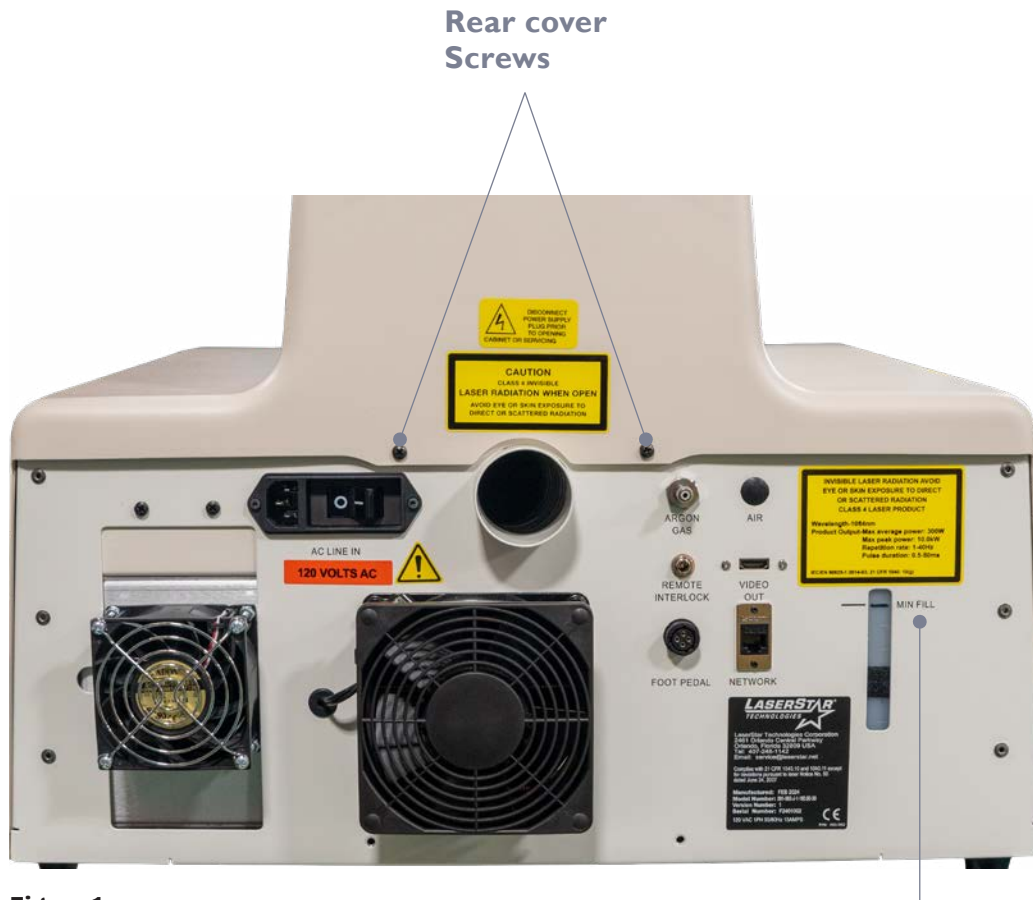

Figure 1
6. Remove the two (2) screws securing the rear cover, as shown in **figure 1**; slide the cover slowly backward (about 6" or 15cm), as shown in **figure 2**.